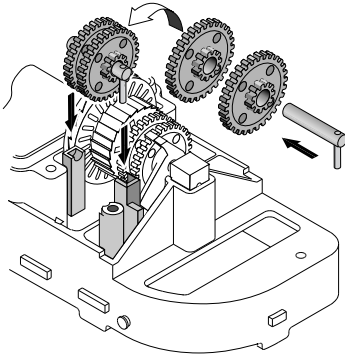

Figure 21
4. Reinstall the short gear shaft and two gears (See Figure 21); the small pinion gears and the shaft pin go on the side toward the *end* of the cleaner – away from the oscillator box. Make sure that the gears engage the gears on the long gear shaft.